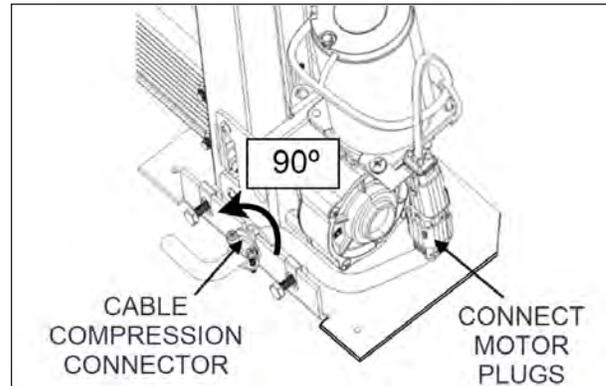

FIGURE 96: CONNECTOR AND PLUGS
11. Connect the cable to the motor harness and tighten the screws of the compression connector onto the base. The screws of the compression connector should be oriented horizontally. You might have to rotate the connector as shown on Figure 96.